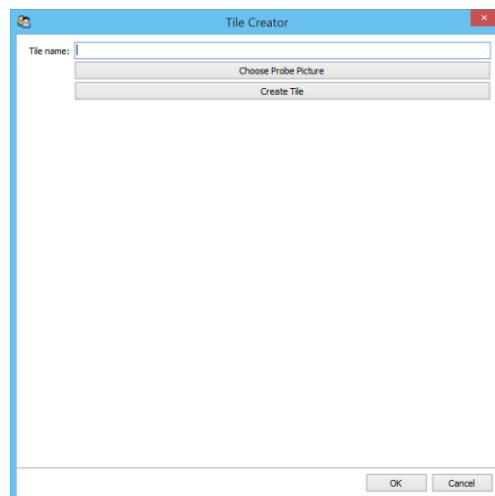

Figure 25: Tile creation dialog
1. Click the “Tile creation” button which opens the tile creation dialog (Figure 25).